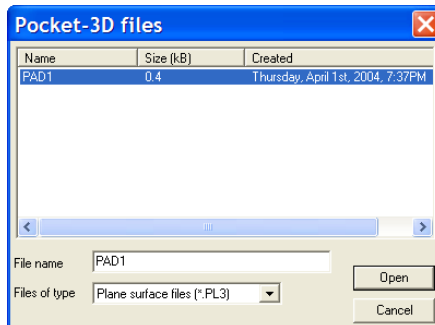

Figure 7-2. Select and Open Pocket-3D Plane File
3. On the **Pocket-3D files** dialog box, select the file to import and click **Open** (Figure 7-2). The file type is automatically selected. The information from the selected file is added to the 3D Project file.